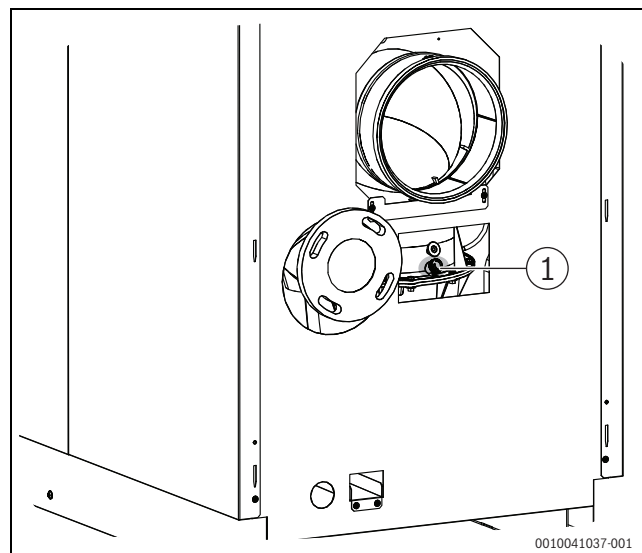

Fig. 38 Recording measurements
- Insert the test sensor through the measurement port (→ Fig. 38, page 31) in the flue gas collector into the core stream and check the  $\text{CO}_2$  value.
- Insert the test sensor through the measurement port (→ Fig. 38, page 31) in the flue pipe into the core stream and check the  $\text{CO}_2$  value.